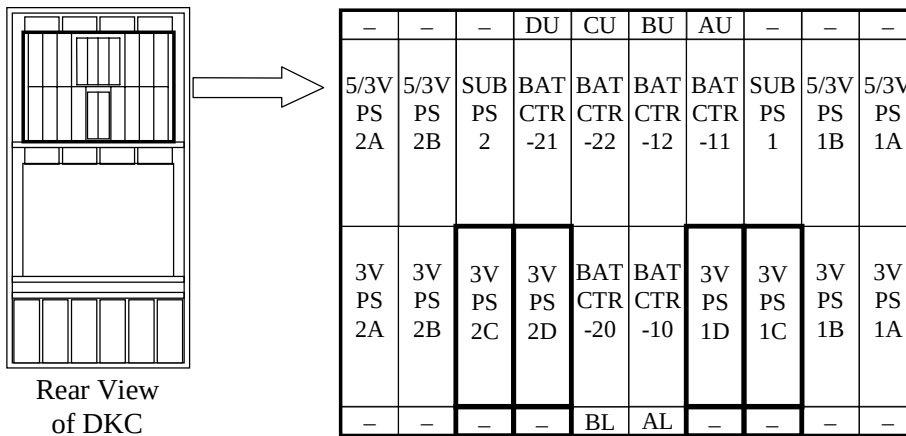
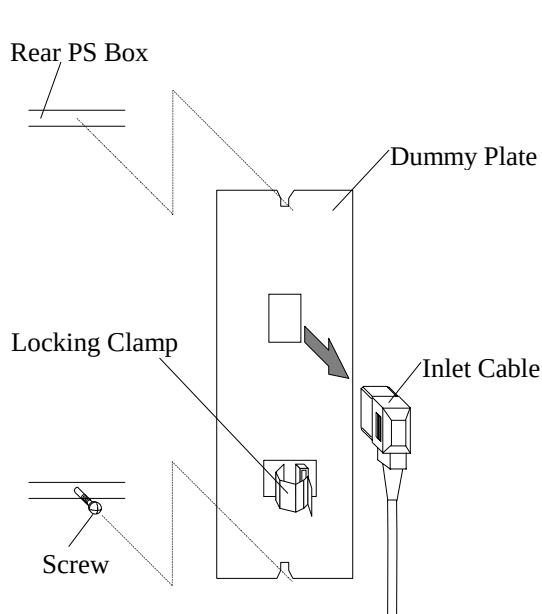
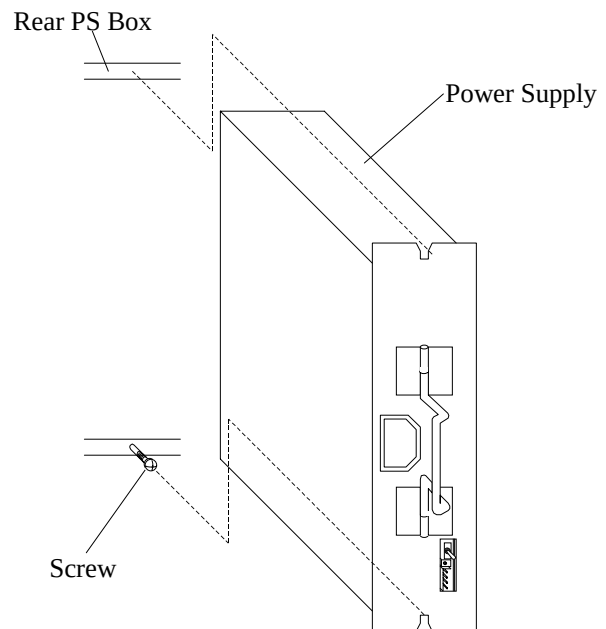

Fig. 3.10-2 Inserting Location
Fig. 3.10-3 Removal of Dummy Plate
Fig. 3.10-4 Installation of Power Supply
- Open the locking clamps and remove the inlet cables from the inserting locations. Refer to Table 3.10-1, Fig. 3.10-2, and Fig. 3.10-3.
- Install the additional power supplies in the correct locations and fasten the screws. Refer to Table 3.10-1, Fig. 3.10-2, and Fig. 3.10-4.